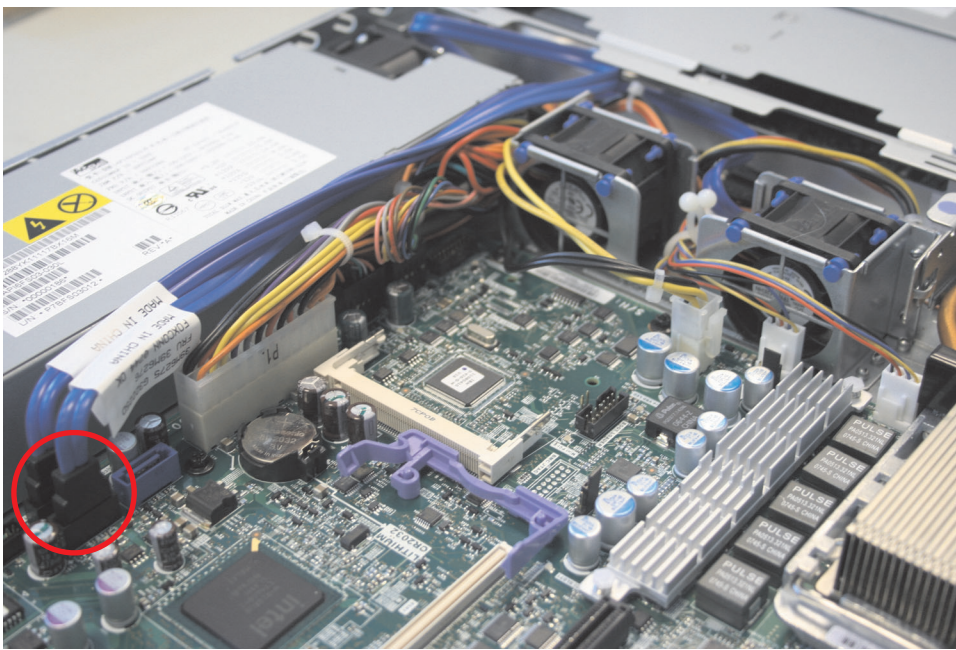

Figure 266. SAN Volume Controller 2145-8A4 SATA cable connectors
8. Disconnect and remove both SATA disk cables from sockets SATA 0 and SATA from the system board, as shown in Figure 266.